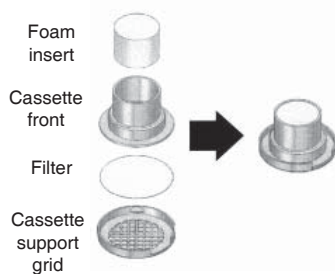

Figure 7. Foam inserted into cassette
- Place a single MultiDust Foam Disc for respirable sampling (Cat. No. 225-772) into the inlet of the cassette top so that it sits just below the rim (Figure 7). Ensure that it is not creased and there are no gaps between it and the cassette wall.
3. Place the MultiDust Foam Disc for respirable (Cat. No. 225-772) into the inlet of the cassette top so that it sits just below the rim (Figure 7). Ensure the foam is not creased and there are no gaps between the foam and the cassette wall.